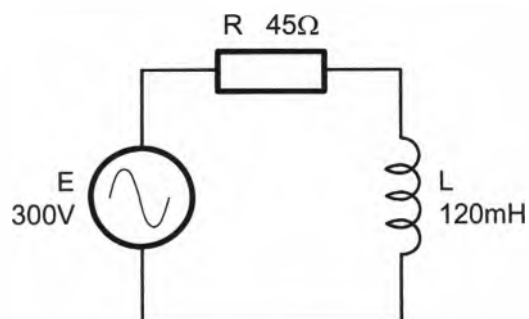

Figure 2
Question 21 refers to the circuit of Figure 2
21. The circuit in Figure 2 has a real power (P) of 1175W, a reactive power (Q) of 984 vars and a power factor of 0.766 lagging. Determine the circuit's apparent power (S).